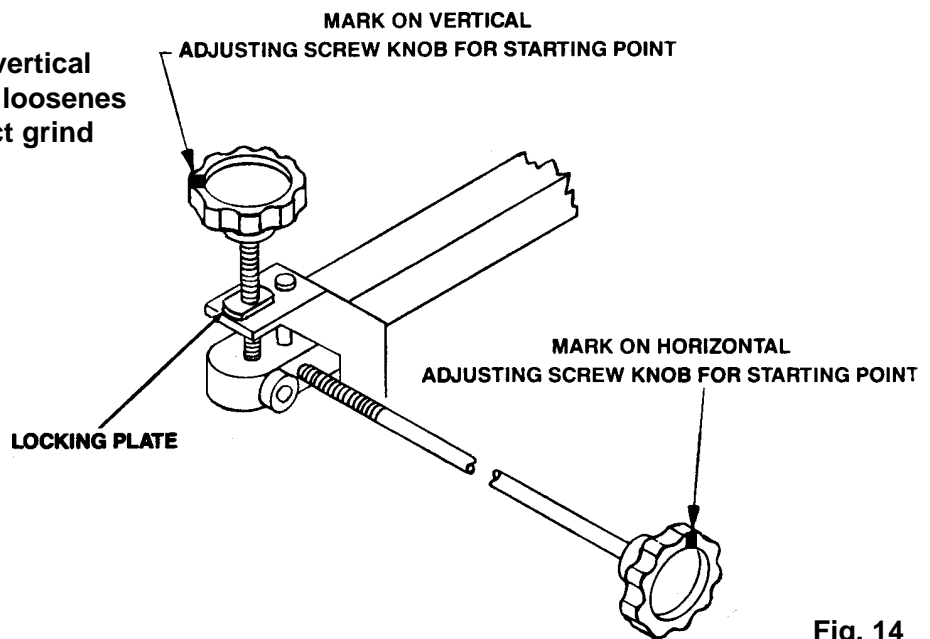

Fig. 14
F. Place a mark on the knob so you know where you are starting from. (See Fig. 14) Now turn the vertical adjusting screw 1-1/2 more revolutions. This 1-1/2 revolution is to compensate for the fact that as you adjust the left side, the right side is also moving at a ratioed amount. This should almost align your reel in the vertical parallelism plane. (See Fig. 14)